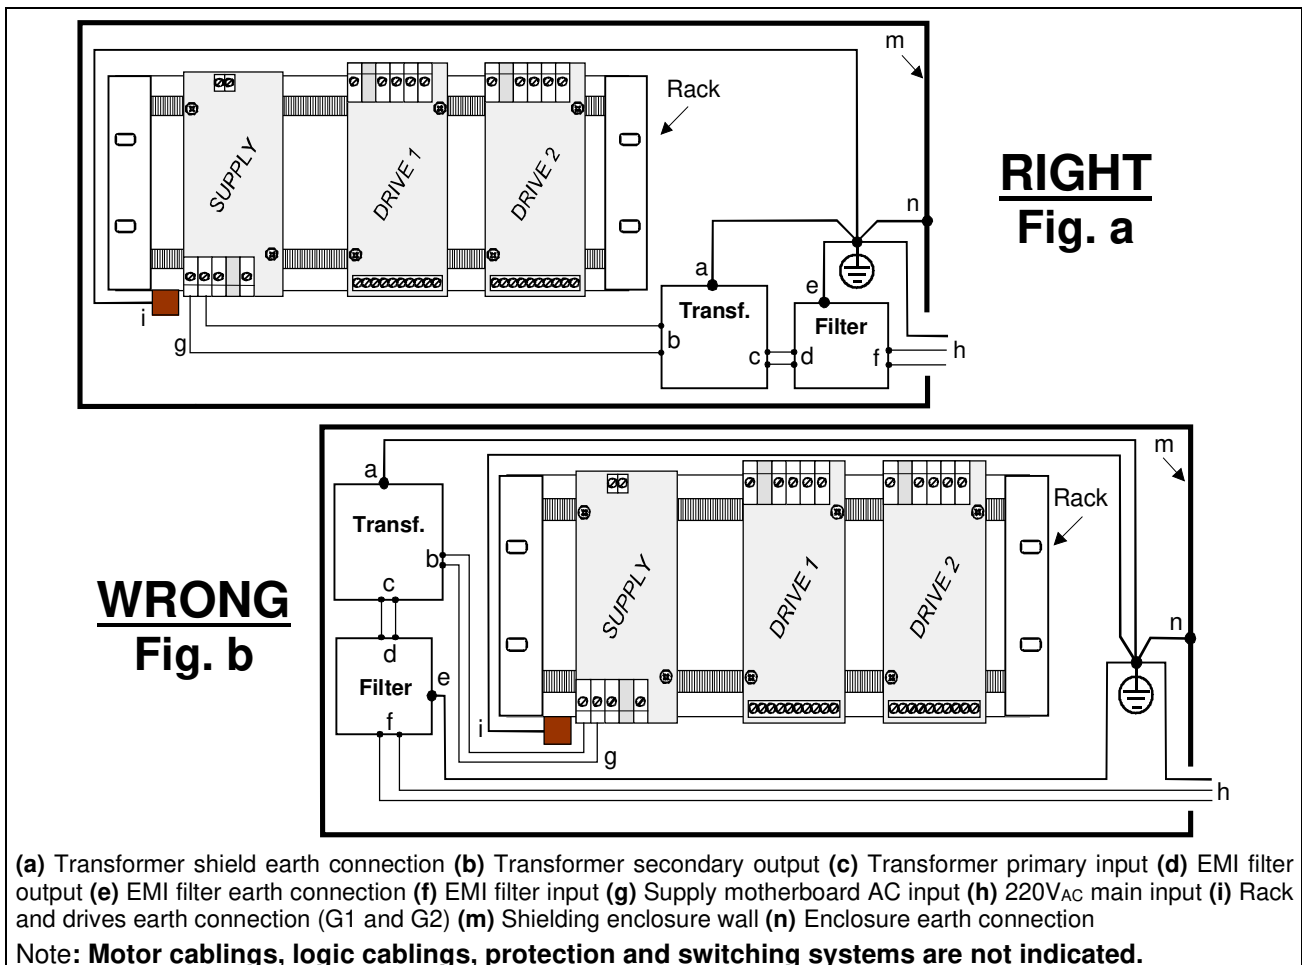

Fig. 17 - Example of filter, transformer and related cabling positioning inside the enclosure
Other filter types can be used provided the attenuation characteristics are the same. Location of filter and of their related cabling are very important: take care that no electromagnetic coupling exists between circuits up the filter and circuits down the filter; if such coupling is present, the effectiveness of filter could be strongly reduced (see also fig. 17).
- 12.3.2- Figures 16 and 17 represent examples of right and wrong way to do motor, drive and supply connections from the point of view of electromagnetic interference. In particular, fig. 17 stress the point that the position, inside the enclosure of filter, transformer and related cabling are very important. In fig. 17-b is represented a situation in which the filter is located in a part of the enclosure far from the 220 VAC input point: the long cabling existing between this input and filter input "collect" electromagnetic field present inside the enclosure and could be source of conducted interference, on which the filter is ineffective. In fig. 17-a the same cabling is very short and this problem is avoided.